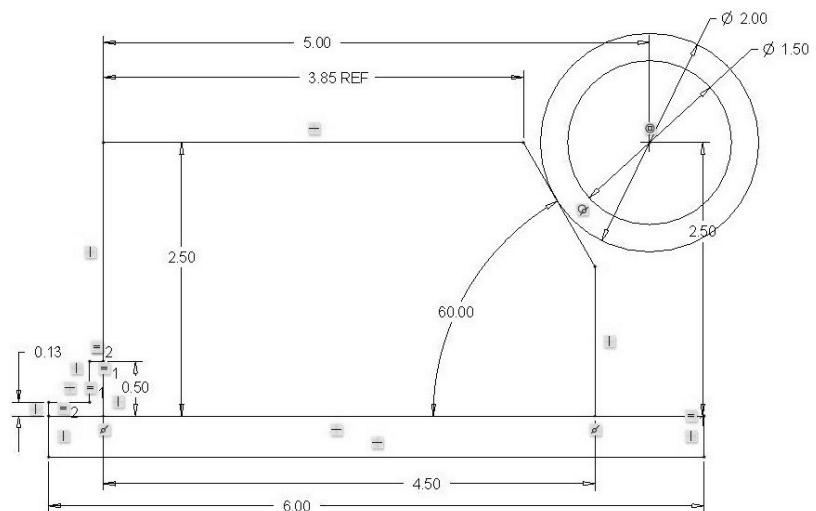

Figure 3-63 Jig Design 1b
Step 27: Modify the dimensions according to Design_1b’s parameters shown in Table 3-2 and Figure 3-63. To modify a dimension, *double-click* on its value using the LMB, and then type a new value followed by the <Enter> key.